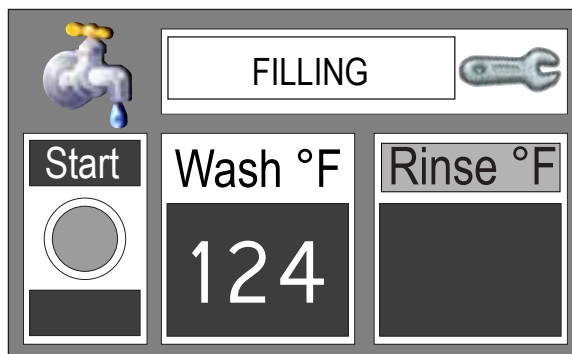

Fig. 17
- 2** Touch 'FILL RESET' and then 'MAIN' to clear the 'CHECK DRAIN' message. The display will return to the 'FILLING' shown in Fig. 17.